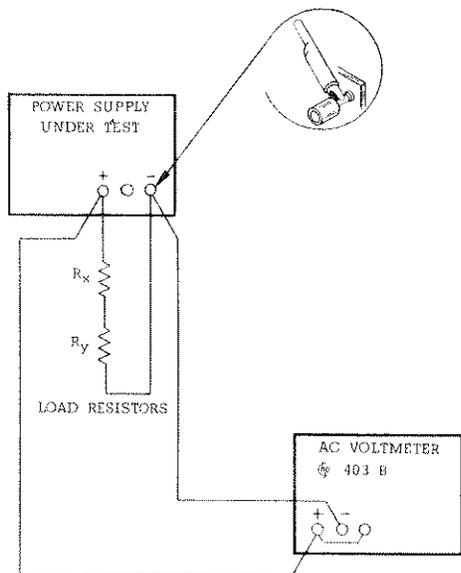

Figure 5-6: Ripple and Noise, Constant Voltage
- Retain test setup used for previous line regulation test except connect AC voltmeter across output terminals as shown in Figure 5-6.